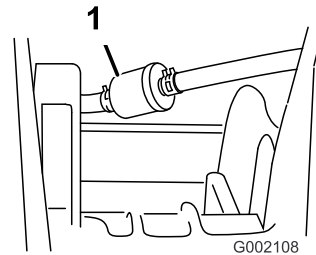

Figure 39
5. Remove the clamps securing the fuel filter to the fuel lines (Figure 39).